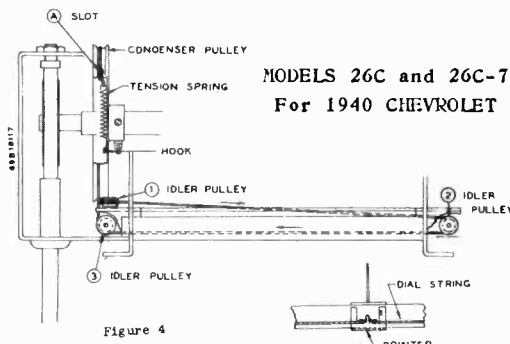

Figure 4
5. Thread one end of cord thru slot A in condenser pulley and with an ordinary paper clip fasten it to the tuning shaft bracket to hold in place. (See Fig. 4.)